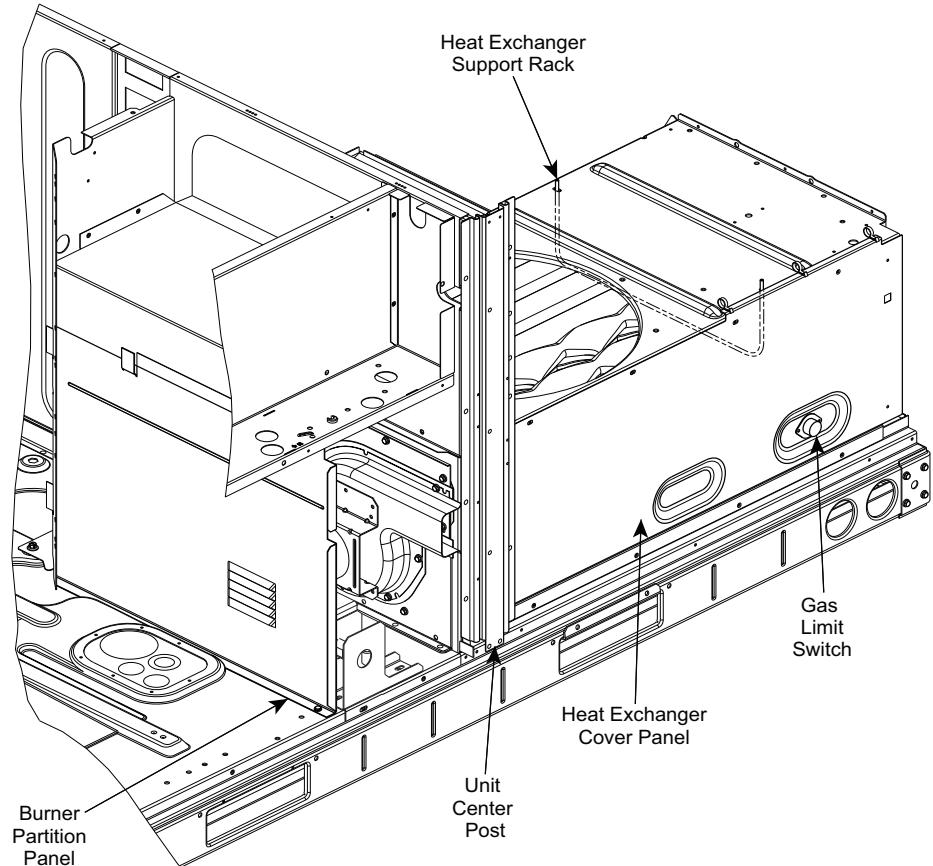

Fig. 50 — Heat Exchanger Access — Internal Panels, Center Post and HX Rack Locations
1. Remove the screw at the base of the burner partition panel (see Fig. 50) and slide out the panel.
5. Remove the screw at the base of the burner partition panel (see Fig. 50) and slide out the panel.
3. Remove the unit center post (refer to Fig. 50).
Remove the indoor blower access panel. Limit switch is located on the heat exchanger cover panel. See Fig. 50.